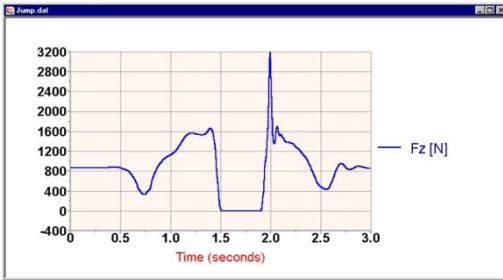

Fig. 102: Vertical Force Jump Trial
- The Wizard box closes and another small box pops up asking us to select a channel to start the acquisition (Fig. 102). Channel 1 is acceptable, so we can press OK. The box disappears and we see our plate in the Active Devices list in the Device Setup dialog box. We are connected to channels 1 through 8. We can check the plate settings by highlighting the plate and pressing Properties. Press OK to close the dialog box
- The default graph will appear. Select View: Edit Parameters from the main menu. In the edit parameters dialog box, select "Clear All", then select a single graph, Fz (vertical force). Your graph should appear similar to Fig. 102